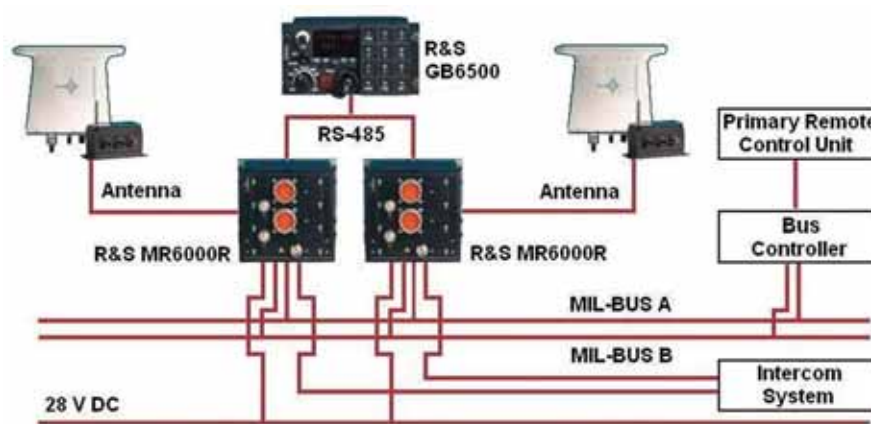

Figure 6: Transceivers integration through different interfaces
- The M3AR family can be flexibly integrated into an aircraft, via the MIL-STD-1553B data bus, RS-485, ARC-164 or front panel control, as shown in Figure 6. The MR6000L/MR6000R with a local control panel is easily installed directly in the cockpit. Alternatively, the MR6000L/MR6000R offers remote control capability via the MIL-STD-1553B data bus, through the R&SGB6500 control unit or by means of RS-485 serial interface in conjunction with the applicable R&S protocol. A maximum of three GB6500 units can control up to five M3AR transceivers over a system bus.